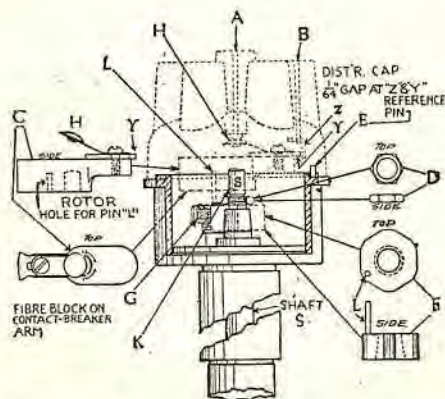

Fig. 22. Remy distributor and interrupter (contact-breaker).
The waterproof type of Remy distributor and interrupter, as used on many different cars is shown in Fig. 22. The Remy automatic advance distributor is shown on pages 211 and 212. The systems are of the closed-circuit type.
cylinder attached to the terminal (B) (Fig. 22) on top of the dead-center compression stroke with the distributor coupling connected up.
(E) is the reference pin (Figs. 22 and 22A) over which the reference slot of the distributor cap is set; (B) is the exact location of the pin in the distributor cap when the distributor cap is installed; therefore, always time by bringing the piston in the cylinder on top of dead-center of the compression stroke, which is attached by high-tension lead to the terminal (B), or to the terminal opposite reference pin (E).
Remove the segment or rotor and cam lock nut (D) (Fig. 22), and lift the cam. Replace the distributor segment (C) in its original position over shaft (K) and cam pin (L) with the cam loose. Then turn cam (F) around (with distributor shaft stationary) in the direction of rotation until the distributor segment (C) is opposite the reference pin (E) with one point of the cam (F) against the fiber block (G), and the breaker points are just ready to separate.